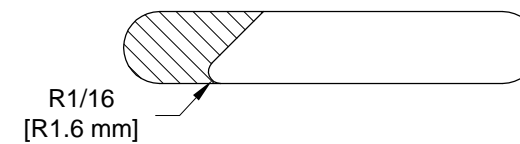

FIGURE 4: POPSICLE STICK TOOL
Step 6: Fabricate a popsicle stick tool as shown in Figure 4.